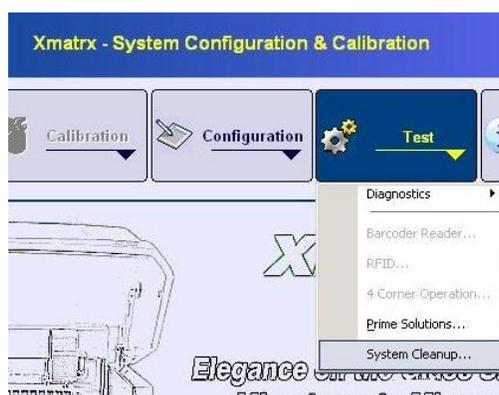

Figure 75:<Test> drop down list
2. Use a soft and damp cloth or lint-free paper to wipe out any dirt from all four (4) of the pipette tip trays (the trays only, not the tips) if necessary.
5. Remove all slides from the slide racks. Remove all four (4) of the slide carriers and soak them in DI water to remove all traces of residue. Dry them with a cloth. Return them to their position.
- a. From the **<Selection Window>**, select **<Run System Configuration>** to open the **<Xmatrix – System Configuration & Calibration>** window. Click on the **<Test>** and select **<System Cleanup>** from the drop-down menu (**Fig. 75**).